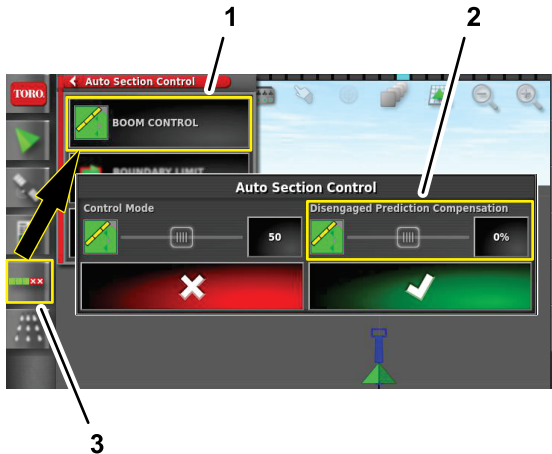

Figure 109
1. Press the AUTO SECTION CONTROL icon (Figure 109).
2. Press the BOOM CONTROL icon (Figure 109).